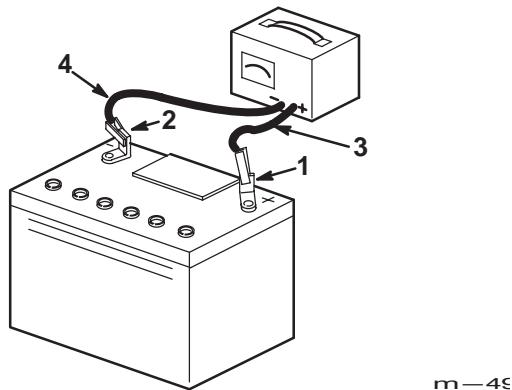

Figure 20
4. When the battery is fully charged, unplug the charger from the electrical outlet, then disconnect the charger leads from the battery posts (Fig. 20).